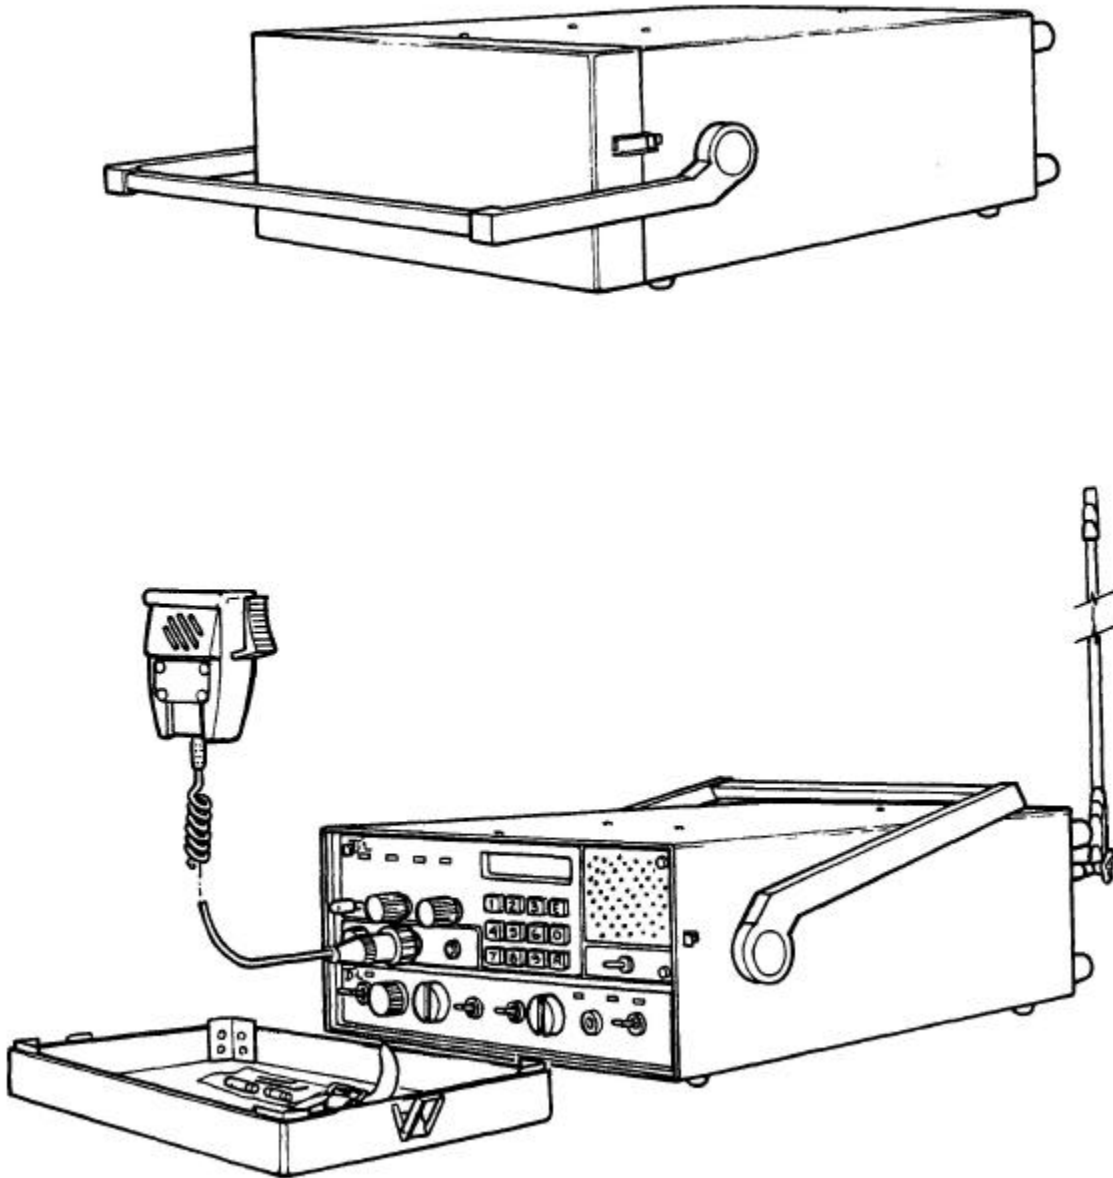

Figure 1-1 TPS-250 Portable Transceiver - General View (Closed & Open View)
The 91-DE/S Portable System consists of Portable Case P/N 911010-1, Transceiver Model TiL 91-DE P/N 901006-2, Microphone P/N 861902-1, Blade Antenna P/N 911017-1, and AC Power Cord P/N 927002-1. The front access cover houses the flexible blade antenna, microphone, AC power cord, 2.5 Amp SLO blow fuse (AC), 5 Amp fuse (DC) and 2 Allen Keys Refer to Figures 1-1 and 1-2 for details.